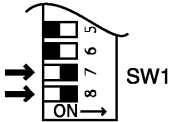

Fig. 5
- Set the Rinnai Water Heaters to 'Forced High' combustion by setting both No. 7 and No. 8 dip switches of the bottom (SW1) set to 'ON'. (Fig.5). **Ensure maximum water flow !**